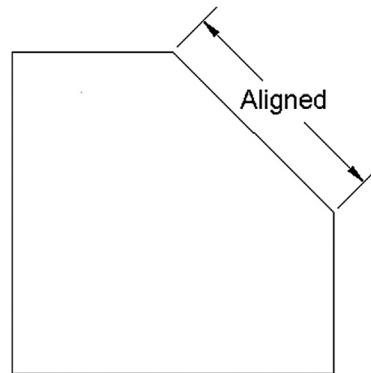

FIGURE 6.3
This is a dimension that measures a slanted line or object (Figure 6.3).
- Step 1.** Create a small to medium-size rectangle or square and chop off any corner, or just do this to your existing shape, as seen in Figure 6.3. Then, begin the aligned dimension command via any of the preceding methods.